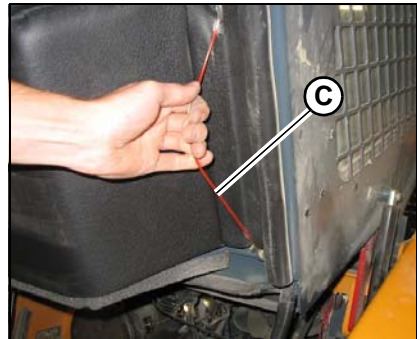

Figure 89 – ROPS/FOPS Lock Mechanism Release
1. Lift the ROPS/FOPS slightly while pulling lock mechanism release (C, Figure 89) toward the front.